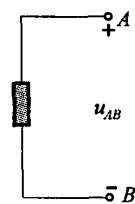

Fig. 1.3 Polarity of voltage  $u_{AB}$
Fig. 1.3 shows the voltage across an element (represented by a rectangular block) connected to points  $A$  and  $B$ . The plus (+) and minus (−) signs are used to define the reference direction or voltage polarity. The  $u_{AB}$  can be interpreted in two ways: (1) point  $A$  is at a potential of  $u_{AB}$  volts higher than point  $B$ , or (2) the potential at  $A$  with respect to point  $B$  is  $u_{AB}$ . It follows logically that in general